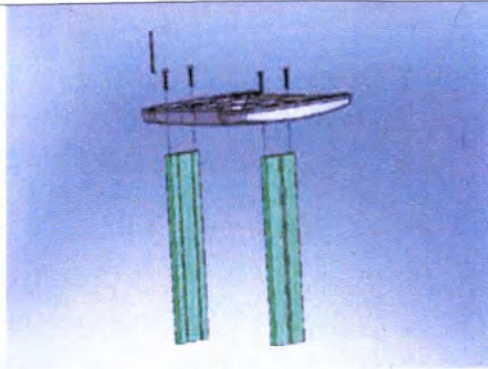

Рисунок 1
1. Attach two Extrusions (1) to the Cart Base (2) using four Thread Forming Screws (12) as shown in figure 1. Note that the extrusions have a single slot on one side and dual slots on the other. The single slot needs to face the outside of the cart. Tighten the screws using a 9/16” (14mm) hex socket wrench to a torque value of 15 ft-lbs (20 N-m). Leave one of the rear screws loose for the installation of a static discharge chain at the next step.